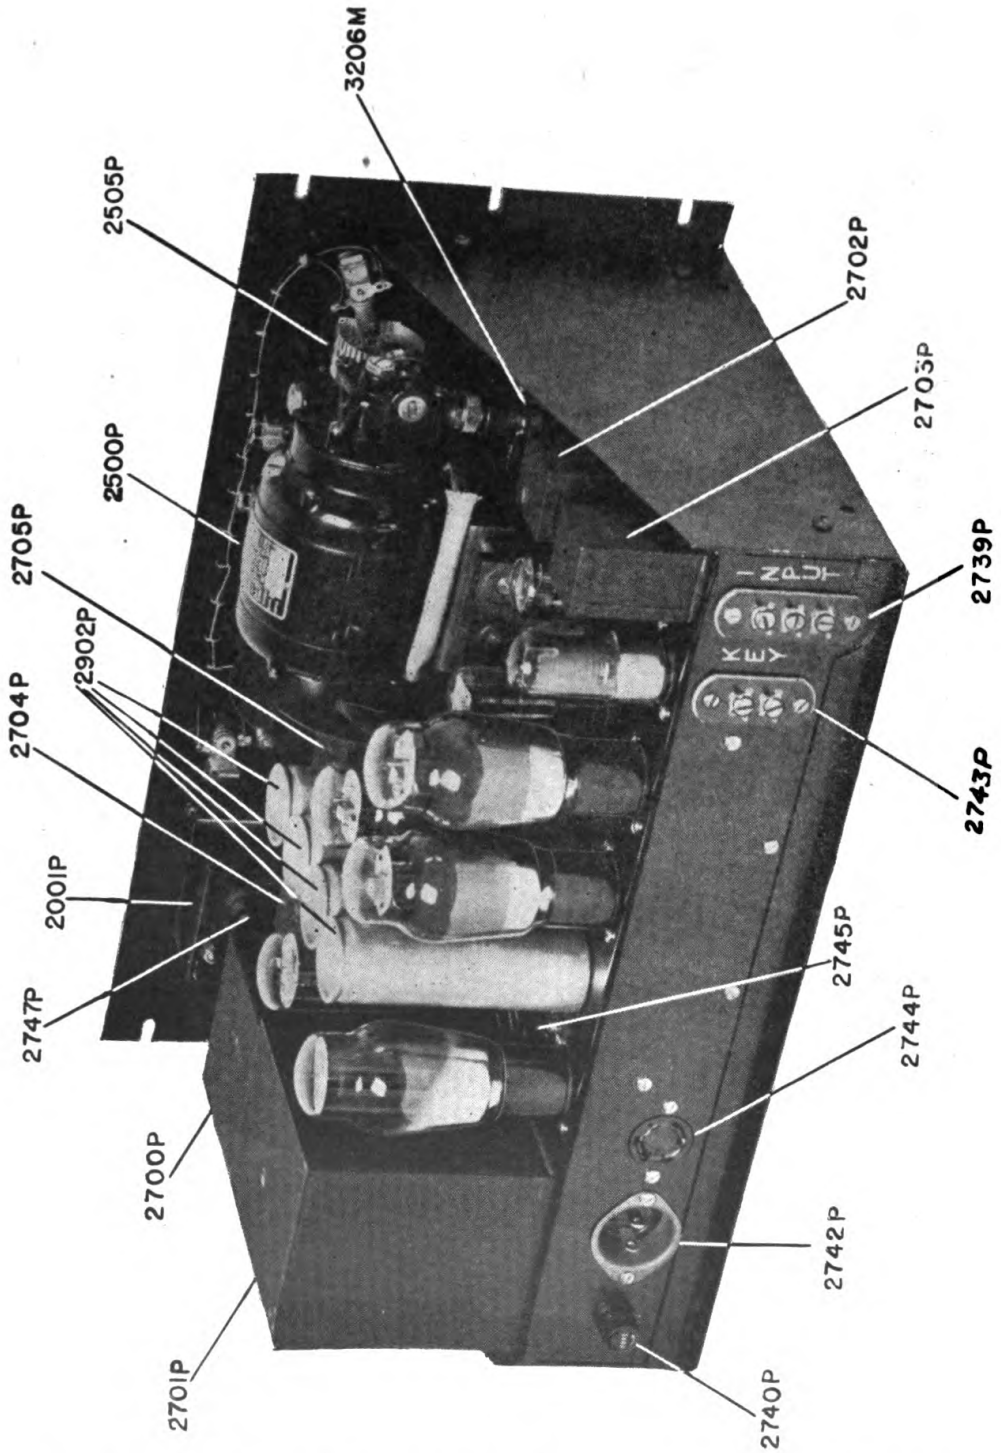

Figure 2—Recorder BC-1016, Rear View—Removed from Cabinet.
*a. Selection of Power Supply.*—Recorder is set at factory for operation on 117 volts, if operation on other voltage is desired, the following changes must be made: Located between the two Tubes VT-244 and accessible through the opening in the top of the cabinet is the a-c input switch (2745P, FIG. 2). Remove Tube VT-244 at the rear of the chassis. With a small screwdriver inserted through the grill on the rear of the cabinet, loosen the locking screw on the a-c input switch and turn the switch to required voltage position as marked on switch. When proper voltage setting has been made, tighten locking screw, and replace Tube VT-244.
*b. Selection of Proper Fuse.*—For operation on 117-170 volts, a 3-ampere protective fuse is used. For operation on 210-240 volts, this fuse must be changed to a 1½ ampere fuse. Remove the fuse holder cap (2740P, FIG. 2) on the rear of the chassis by pressing in and turning one-quarter turn in a counter-clockwise direction. Replace the 3-ampere fuse with the 1½ ampere fuse supplied and located in the tape drawer.
(2743P, FIG. 2) on the rear of the chassis. No battery or oscillator is needed—closing the circuit keys the recorder. The monitor jack (2556P) and THRESHOLD control are out of service but the SLOPE control functions exactly as outlined in PAR. 8c.
(1) *Table Mounting.*—If the recorder is to be operated on a table, place it in position and run leads from the appropriate input terminals (2739P, FIG. 2) to the radio receiver or transmission (telephone) line. Plug the line power cord into the receptacle (2742P, FIG. 2) on the rear of the chassis and into any convenient power outlet.